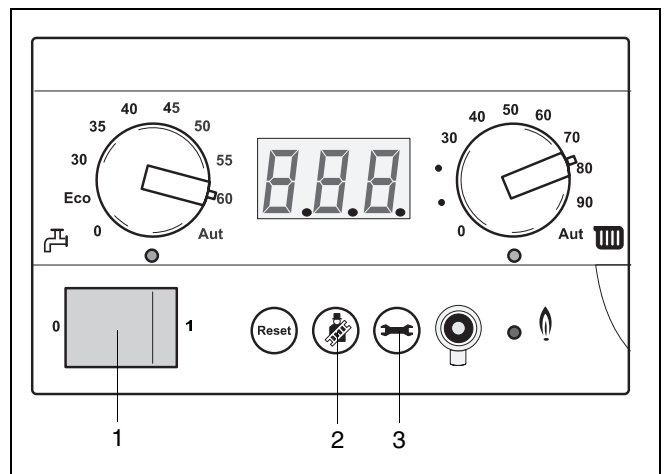

fig. 43 Press the chimney sweep button
- Take the boiler out of service by pressing the mains switch (→ fig. 43, item 1) to "0".
- Set the mains switch (→ fig. 43, item 1) to "1".
- Create a heat demand by pressing the chimney sweep button (→ fig. 43, item 2), until a LED is visible in the lower right hand corner (chimney sweep mode).
- Turn the mains power switch to "0" (→ fig. 43, item 1).
- Set mains power switch to "1" (→ fig. 43, item 1).
- Set the mains power switch to "0" (→ fig. 43, item 1).
- Set the mains power switch to "1" (→ fig. 43, item 1).